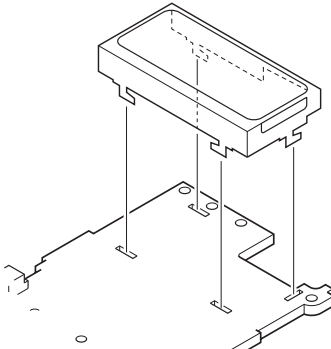

Fig. 2
(1) Insert the tabs of the LCD hardware fixture into four holes in the LCD installing position of the TX-RX PCB (TX-RX unit A/3). (Fig. 2)